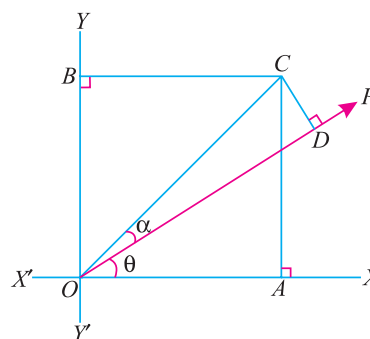

Fig. 16.1. Principle of virtual work.
**Proof.** Consider a body at  $O$ , subjected to a force  $P$  inclined at angle  $\theta$  with  $X-X$  axis as shown in Fig. 16.1.
Now consider the body to move from  $O$  to some other point  $C$ , under the action of the force  $P$ , such that the line  $OC$  makes an angle  $\alpha$  with the direction of the force. Now draw  $CA$  and  $CB$  perpendiculars to  $OX$  and  $OY$  respectively as shown in Fig. 16.1.